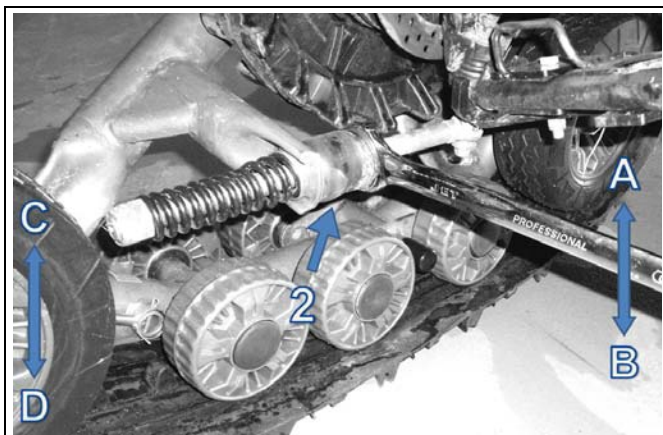

Figure 5
- Set the nut (2) shown on Figure 5 until the flat bar reaches 315 ± 5 mm above the ground. For right hand side, rotating the wrench towards A makes the system rotate towards C while rotating the wrench towards B makes the system rotate towards D (reverse for left hand side).